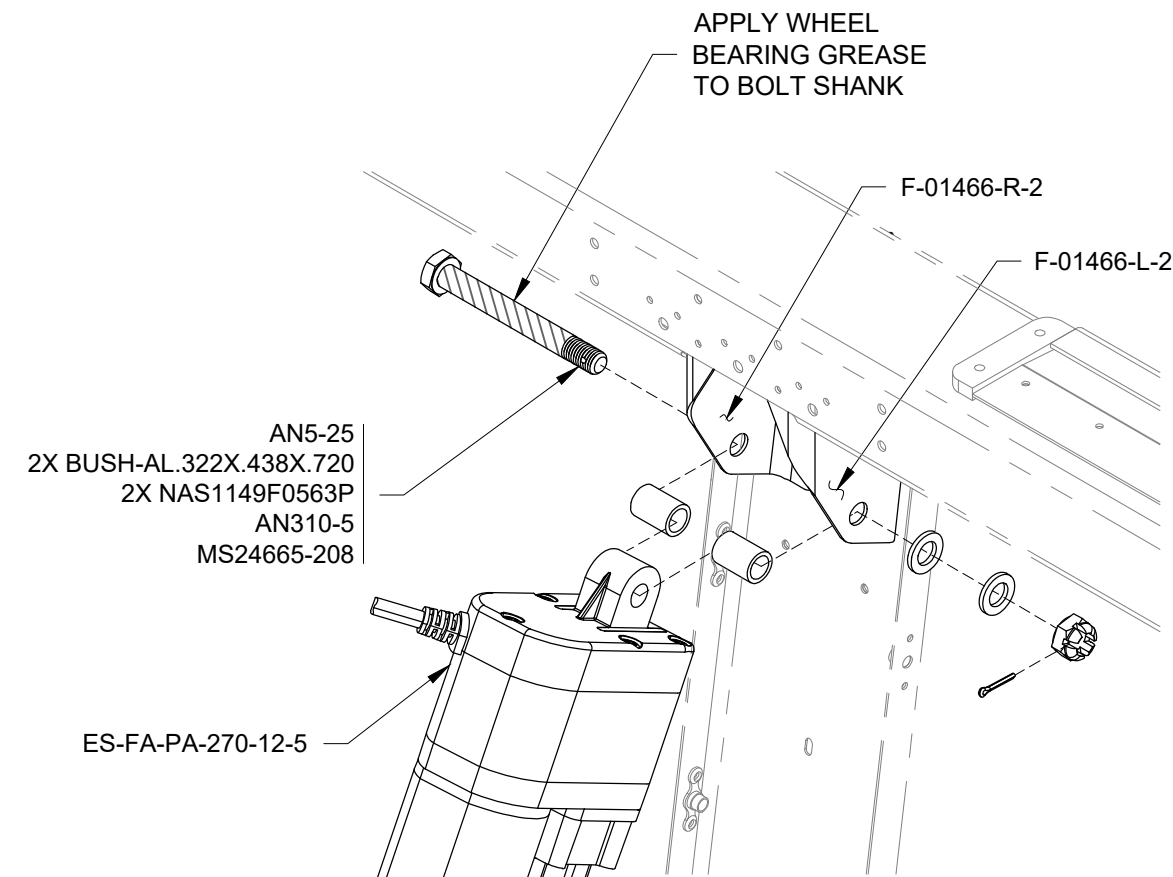
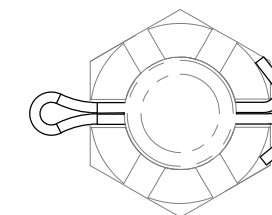

FIGURE 3: UPPER FLAP MOTOR ATTACHMENT
FIGURE 4: COTTER PIN INSTALLATION
Step 3: Apply a small amount of wheel bearing grease to the bolt shank, as shown in Figure 3. Bolt the ES-FA-PA-270-12-5 Flap Motor lug to the F-01466-L-2 & -R-2 Flap Motor Brackets using the hardware called out in Figure 3. Tighten the castle nut just enough to remove end play but not so much as to add friction. Install the cotter pin oriented as shown in Figure 4. Incorrect orientation will result in interference between the cotter pin and the Flap Motor Cover Assembly See Page 65-05, Figure 1.